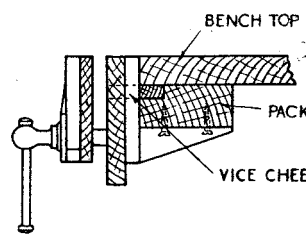

FIG. 9. SECTION THROUGH VISE
**Fitting the Vice.** This must be fixed so that it does not interfere with the lid's closing down and hiding the edge of the bench top. It is therefore necessary to fix the inner cheek of the vice to a piece of stuff that is the counterpart of one of the fronts of the side drawers (Fig. 9). This
In order that the top of the vice should be level with the bench top, it is necessary to cut away the latter as shown in Fig. 4. The rigid fixing of the vice is effected by a packing piece (Fig. 9) fixed to the underside of the bench top. It is as